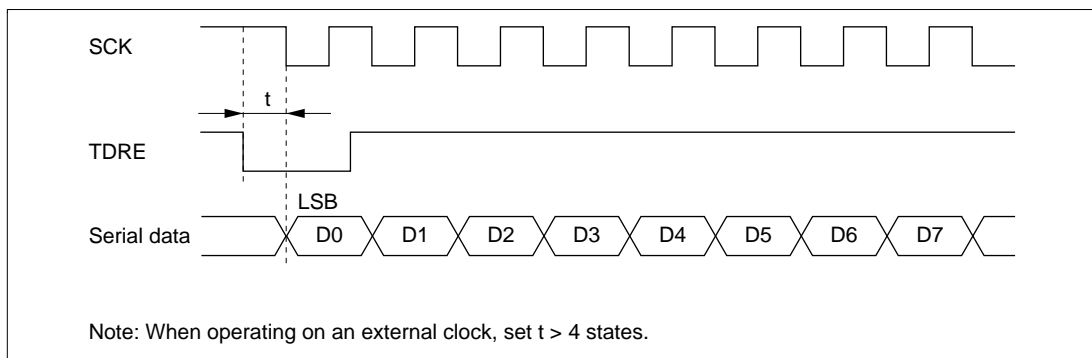

Figure 15.22 Example of Synchronous Transmission by DTC
- When an external clock source is used as the serial clock, the transmit clock should not be input until at least 5 ϕ clock cycles after TDR is updated by the DTC. Misoperation may occur if the transmit clock is input within 4 clock cycles after TDR is updated. (Figure 15.22)